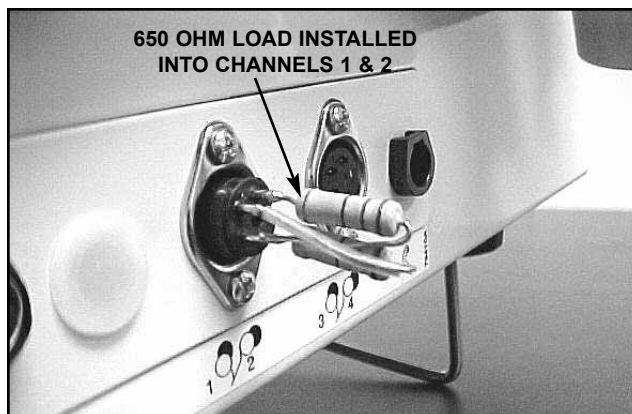

FIGURE 5.3
2. Install 650 ohm load into patient lead DIN connector (Channel 1 & 2). See Figure 5.3.
4. Turn unit on. After approximately one (1) minute the main menu should display and the fan should be blowing outward.